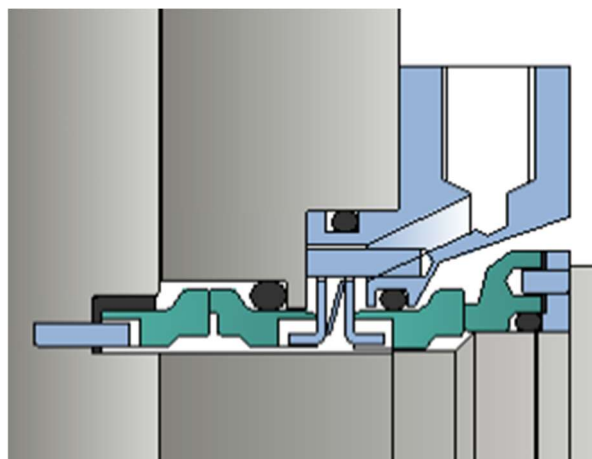

Figure 12 - Double mechanical seal (Size 4-8)
Double seals code D are run with a fluid between the primary and secondary mechanical seals to form a barrier between the pump and the atmosphere. (Figure 12)
- The system can be installed as in figure 12, but must be capable of withstanding